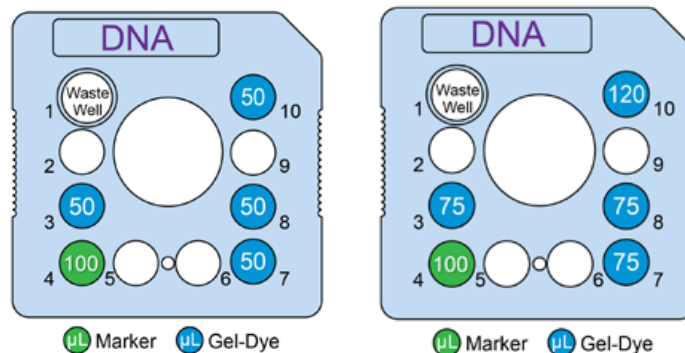

Figure 1. Low-throughput **Figure 2. High-throughput**
- Use a reverse pipetting technique to add gel dye to wells 3, 7, 8 and 10 (Figure 1).
- For a low-throughput (1-48 samples), add 50 μ l of Gel dye to wells 3, 7, 8, 10. Add 100 μ l DNA HiSens marker to well 4 (Figure 1).